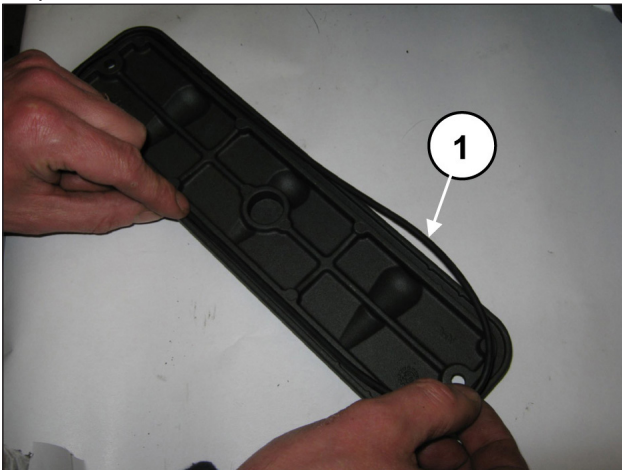
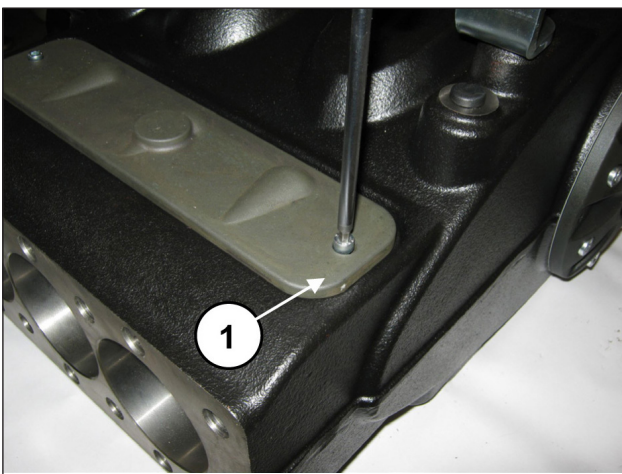

Fig. 91
Fig. 92
Apply O-rings on the inspection covers (pos. ①, Fig. 91) and tighten with 2+2 M6x14 screws (pos. ①, Fig. 92). Calibrate the screws with a torque wrench as indicated in chapter 3 SCREW TIGHTENING CALIBRATION.